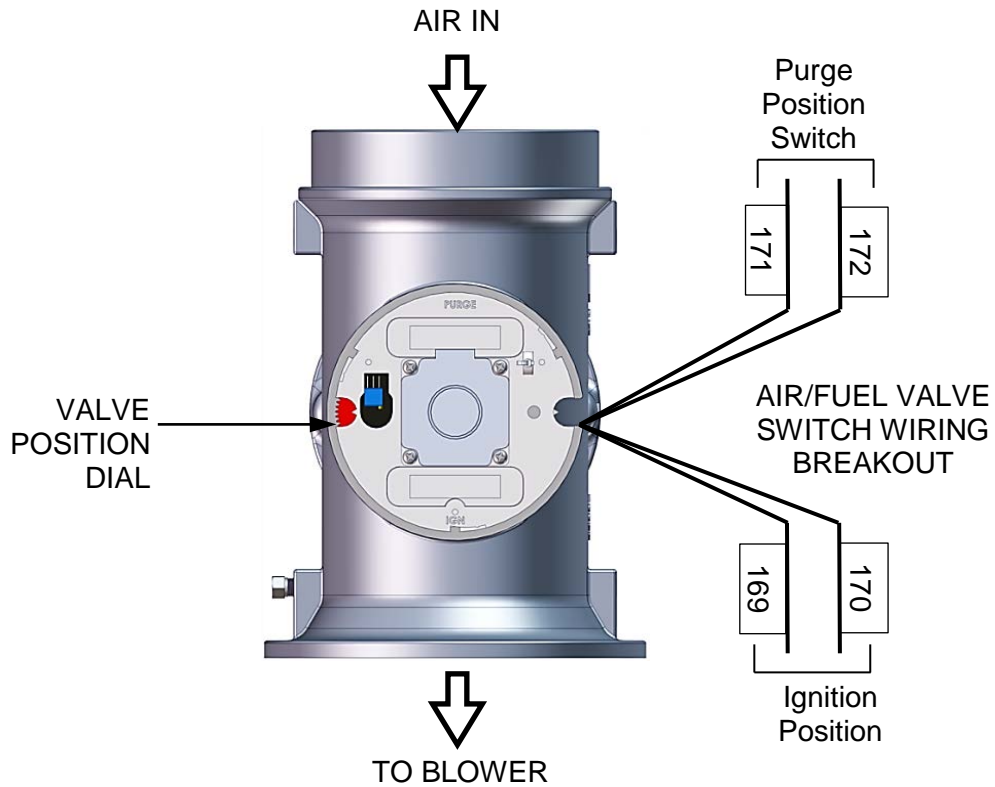

Figure 5-8. Air/Fuel Valve Purge and Ignition Switch Locations
3. Remove one of the two wires (#171 or #172) from the **Purge** switch (Figure 5-8).
4. Remove one of the two wires (#169 or #170) from the **Ignition** switch (Figure 5-8).